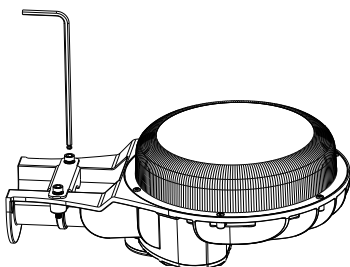

Figure 1
1. Loosen the installation plate on the arm by M6 hex wrench (Figure 1)